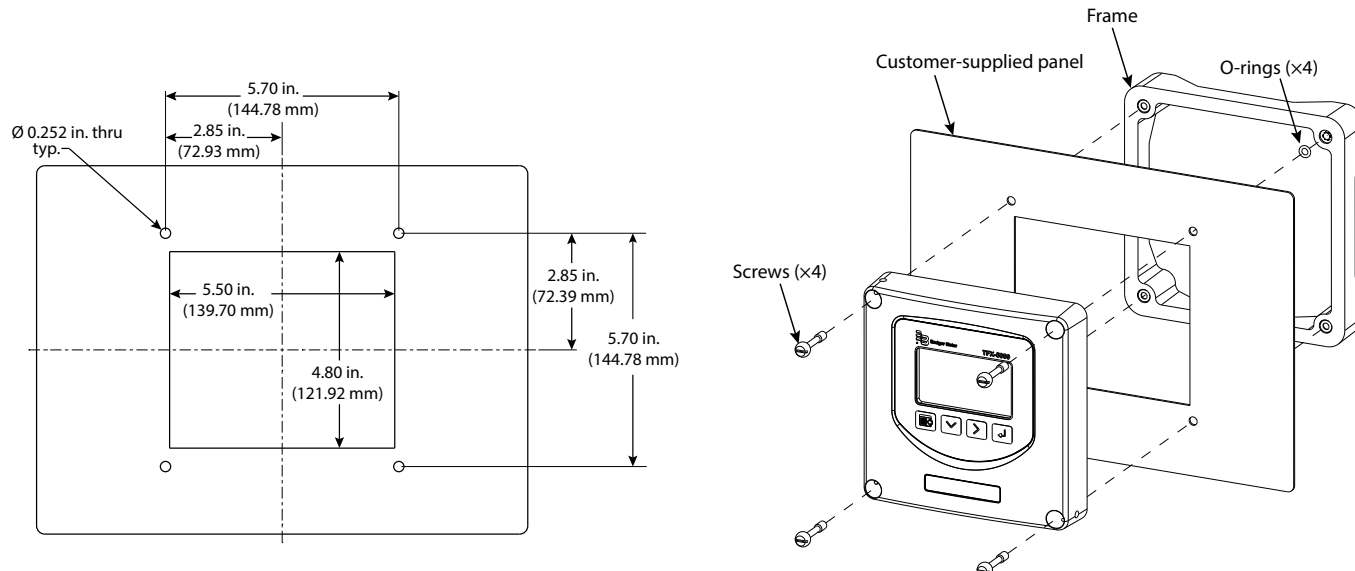

Figure 21: Panel cutout dimensions and installation exploded view
1. Measure and cut a mounting hole into the customer-supplied panel to the dimensions shown in Figure 21.